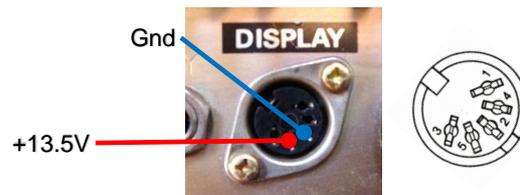

Figure 17
- Connect the multimeter (min. 3 ½ digits → resolution 10mV) to the 5-pin socket (Gnd = Pin2, +13.5V=Pin5), see Figure 17.
- Use the multimeter to measure the supply voltage as shown in Figure 17.